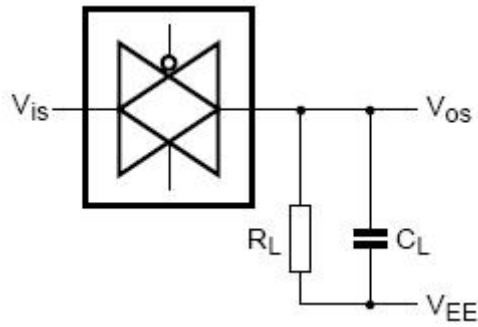

图7、方波失真度、关断频率和导通频率测试图
- $R_L = 1\text{ k}\Omega$; $C_L = 5\text{ pF}$, 通道关断, $20\log V_{os}/V_{is} = -50\text{ dB}$, 见图7
- $R_L = 1\text{ k}\Omega$; $C_L = 5\text{ pF}$, 通道开, $20\log V_{os}/V_{is} = -3\text{ dB}$, 见图7